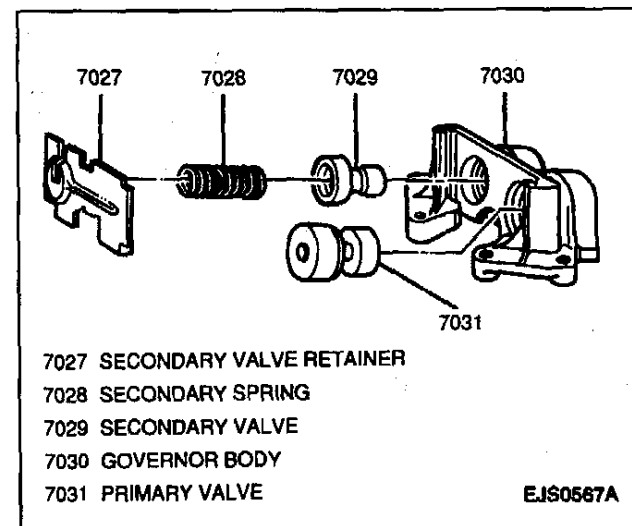

Figure 65—Disassembling Governor Assembly
8. Secondary valve retainer, secondary spring, secondary valve and primary valve from governor body (Figure 65).
1. Governor hub seal rings for cuts or other damage. Replace as necessary (Figure 65).
2. 1-2 shift valve, 1-2 shift control valve secondary spring, 1-2 shift control valve, 1-2 shift control valve primary spring and 1-2 shift control valve sleeve into valve body; secure with retaining pin (Figure 65).